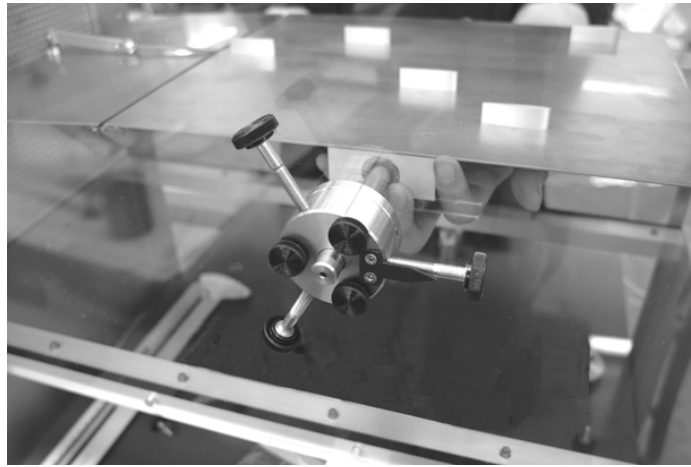

Figure 6 Slide the Model Shaft (other side of the model) Into the Holder on the Other Panel
4. Locate the model shaft into the model holder in the other side panel (see Figure 6). Make sure that the small aerofoils are uppermost.